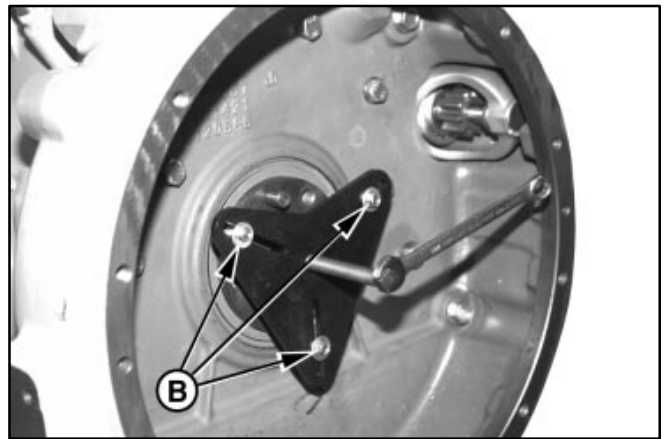

FIGURE 7-38. REMOVING REAR OIL SEAL
5. Position the tool on the the crankshaft. Thread three 2-1/2 in (62 mm) long sheet metal screws with washers (B) through the slots of the tool and into the holes drilled in the seal casing (Figure 7-38).